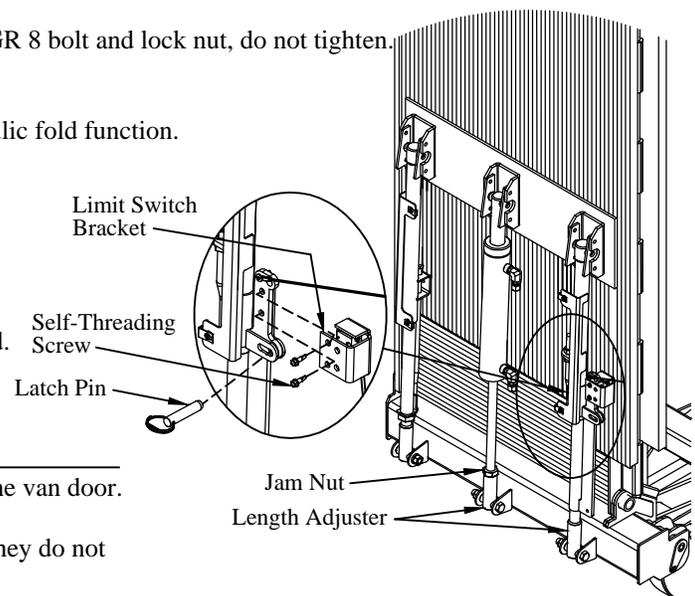

Figure 15: Platform latch and adjustment.
- 4. Install** the limit switch bracket on the passenger side support arm with two (2) #12 self-threading screws. See Figure 15 for bracket shipping location.
Make sure that the limit switch is not in the pushed position (Figure 15).
- 3. Support** the platform to keep it from falling or hitting the van in the next steps (Figure 15).